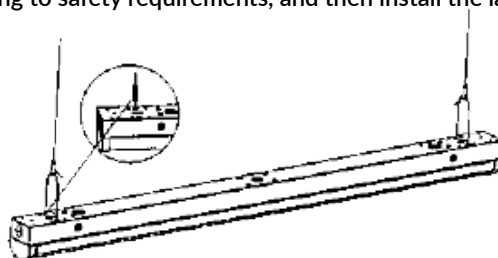

Figure 7
Step 2: Fasten the other end of the installation rope to the lamp (Figure 7).